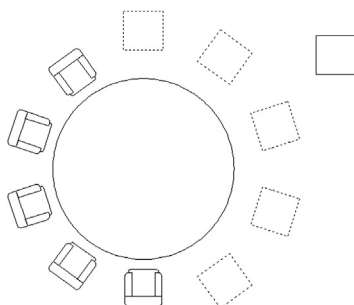

FIGURE 8.7
- **Replace Item.** If editing the source is too time consuming, then just replace it with another design via this option. AutoCAD asks you to select the replacement object and a base point. Use the `Key Point` option to pick a point on the replacement object. Finally, select an item (or several items) in the array to replace. Figure 8.7 shows Replace Item in action as squares replace the chair symbol.